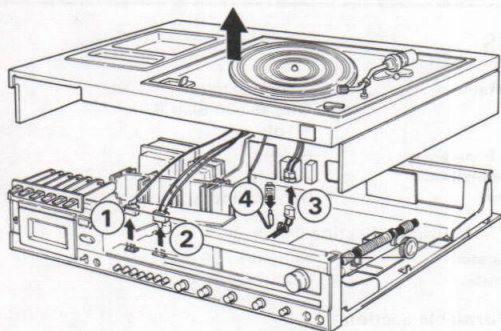

Fig. 2
- 1) Disconnect turntable connectors ((1)~(3)) and AC cord (4). Turntable and wooden cover can then be removed. (Refer to Fig. 2).